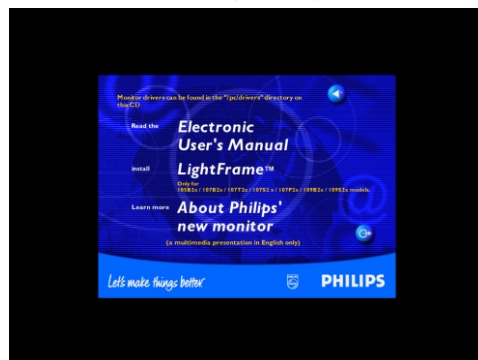

Fig 2
2. Click one of languages (for example : English) on the screen,bring up Fig.2